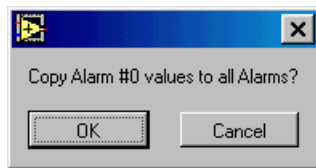

Figure 8-3. Copy Alarm Message Box
- **Copy Alarm #0 to All** — Click this option to copy the configuration settings of the top level alarm in this dialog box (in this case, the **Module to Module Communication** alarm settings) to all clock module alarms. Click **OK** in the Copy Alarm message box (Figure 8-3) to copy the alarm settings, or click **Cancel** to cancel the operation.